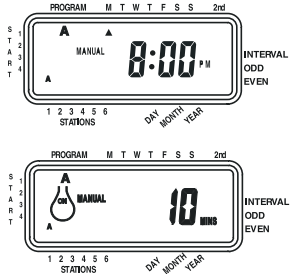

Figure 12: Manual Watering in Either the A or B Program Only
- To activate each stations assigned watering durations for the A program only, press the manual key, followed by the next key. This will activate stations with assigned watering durations in the A program only. To initiate this semi-automatic watering, press enter [See Figure 12].